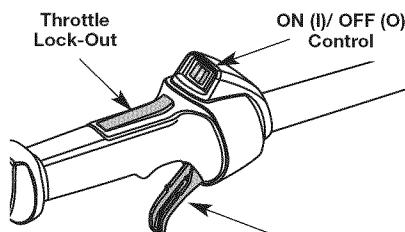

Fig. 6
- NOTE:** There is no need to turn the unit on. The On/Off Control is in the **ON (I)** position at all times (Fig. 6).
2. Press and hold the On/Off Control switch in the **OFF (O)** position until the unit comes to a complete stop (Fig. 6).